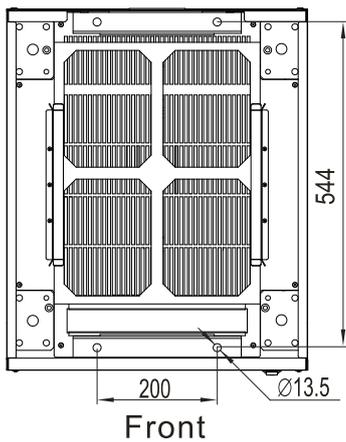
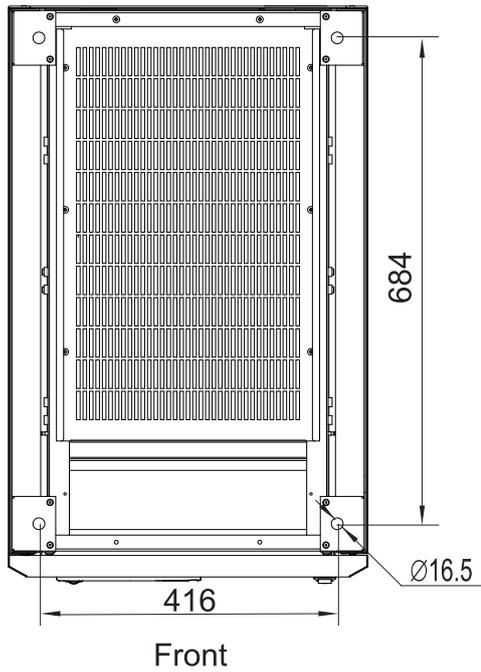

Figure3-12 Pedestal installation size of Three-Phase (10kVA-30kVA) series UPS (top view)
Figure3-13 Pedestal installation size of Three-Phase (40kVA-80kVA) series UPS (top view)
Step 2 Drill ϕ 16.5 holes on the ground by impact drill according to the installation hole size of pedestal. The pedestal installation hole size of each model is as shown in Figure3-12, Figure3-13 and Figure3-14.
The manufacturer does not provide brackets, user can order them according to the dimensions (as shown in Figure3-12, Figure3-13, Figure3-14.